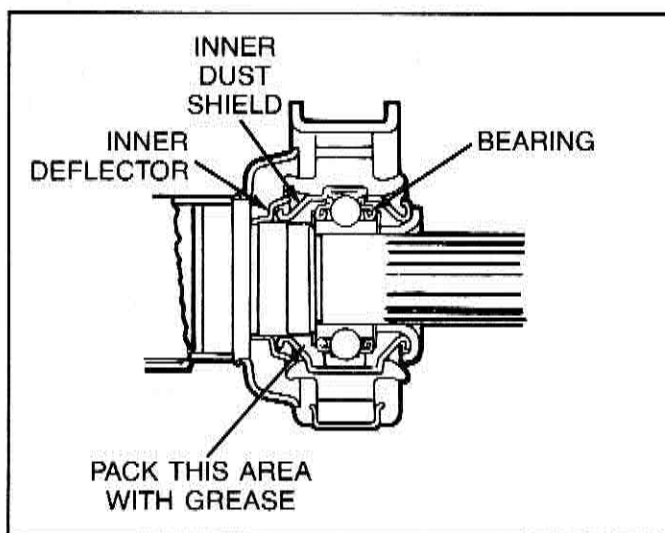
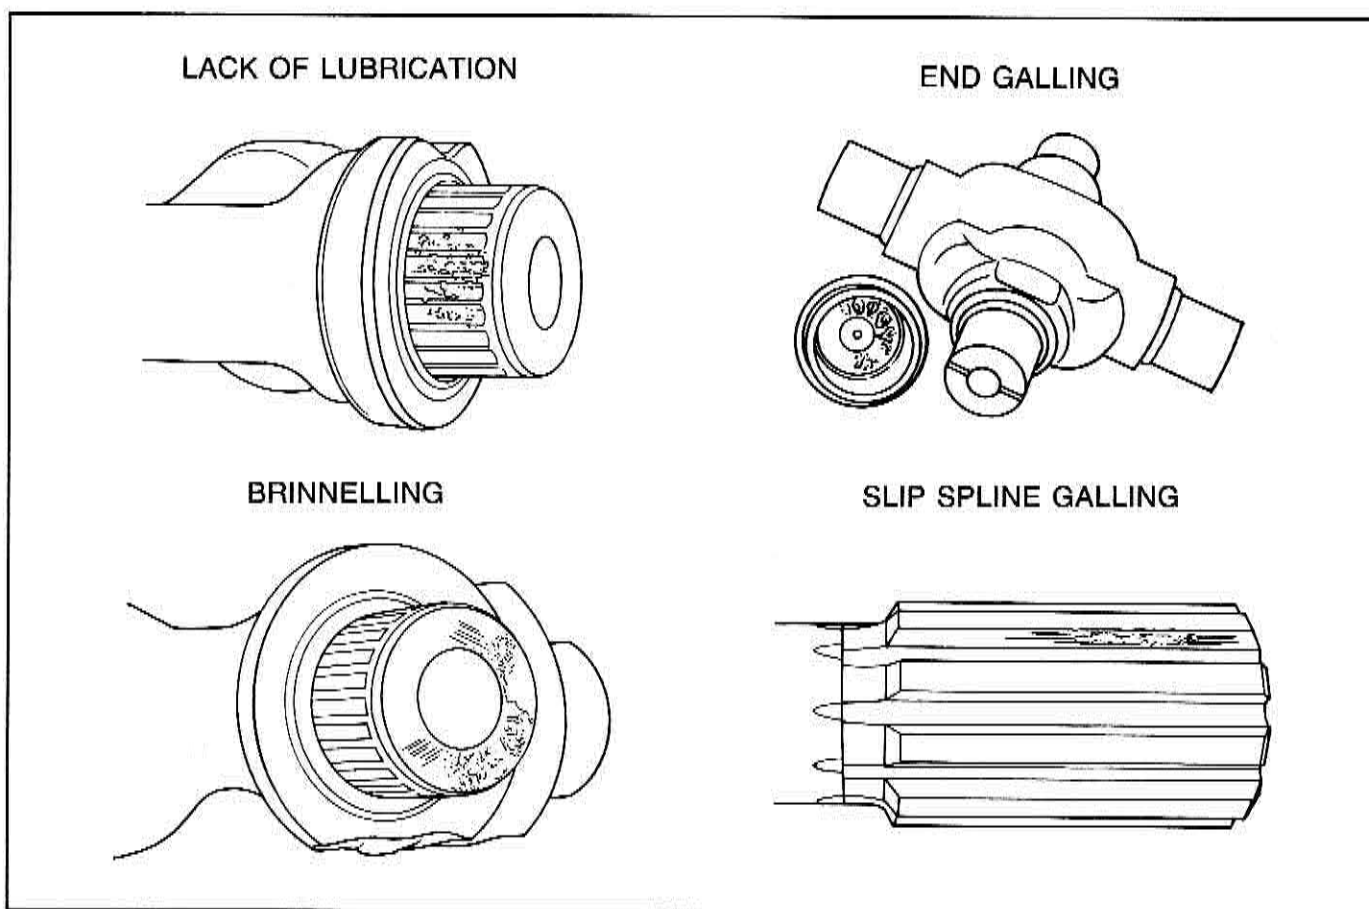

Figure 4-3 — Center Bearing
Figure 4-4 — Typical Failures — U-Joints and Slip Spline
If the center bearing is replaced, the bearing itself does not need to be packed with grease. However, chassis lubricant should be packed within the dust shields to form a dam to aid in preventing water and dirt from reaching the bearing. The dust shields are staked into position following the procedure detailed in the shop manual. (See Figure 4-3.) Typical U-joint and slip spline failures are shown in Figure 4-4.
- Crosses in the universal joints are worn or damaged. See Figure 4-4 in this section of the manual.
- Center bearing is worn or loose. See Figure 4-3 in this section of the manual.